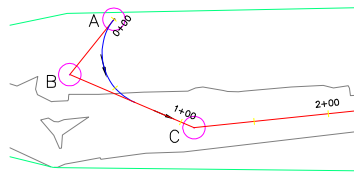

Figure 5-66 The best fit curve added to the **Road A** alignment
10. Choose the button with green tick mark to exit the **PANORAMA** window; the best fit curve is created and displayed on the alignment, as shown in Figure 5-66.